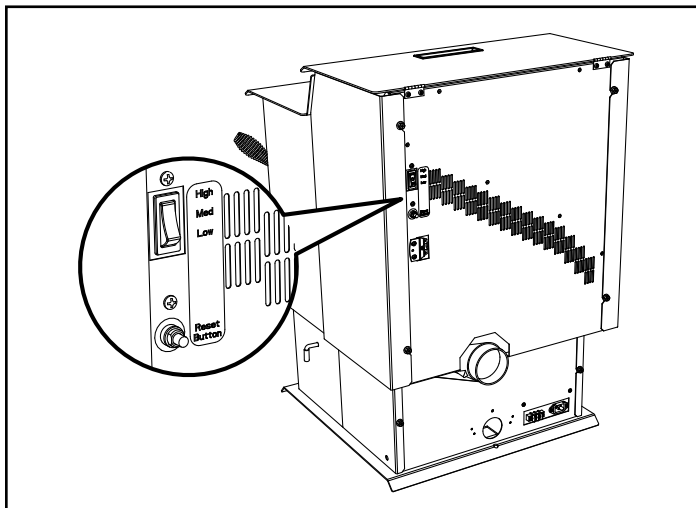

Figure 10.1
2. **Heat Output Controls:** This appliance is equipped with a heat output control switch that has three settings or burn rates; low, medium and high (Figure 10.1). The appliance will turn on and off as the thermostat demands. When the thermostat calls for heat, the appliance will always start up on High. After burning approximately 4 minutes, the appliance will then burn at the rate at which it was originally set. If the appliance is set at one of the lower settings, it will run quieter but takes longer to heat up an area than if it were set at a higher burn rate. Regardless of the burn rate, when the area is warm enough to satisfy the thermostat, the appliance will shut off.
3. Locate the heat output control switch mounted on the back of the appliance in the upper left corner (**Figure 10.1 on page 10**).